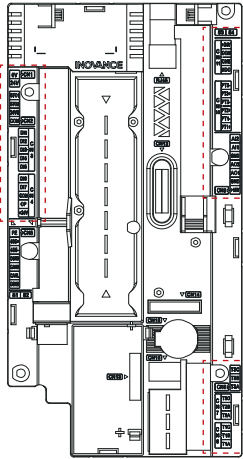

Figure 4-31 Removing control terminal cables
3. Remove the cables connecting to the control circuit terminals ①, ②, ③, and ④ (terminals as shown in the dashed box in "Figure 4-31 Removing control terminal cables" on page 32) of the AC drive.